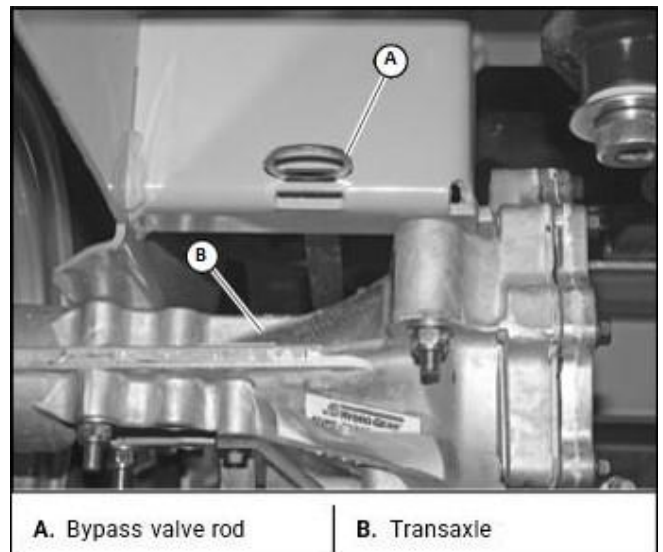

Figure 16
6. With the bypass valve open and the engine running, slowly move the steering control lever in both forward and reverse directions (5 or 6 times). [Figure 16]